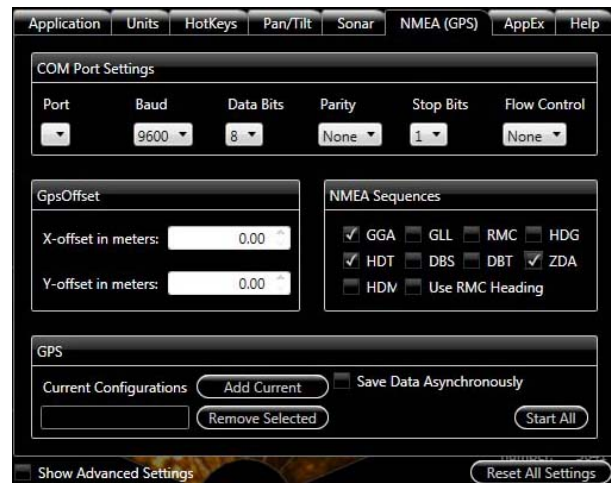

Figure 46. ProViewer NMEA Panel
2. Configure NMEA settings via the NMEA(GPS) tab in the application settings menu (Figure 46). SAMM requires GGA, HDT, and ZDA inputs to be configured.